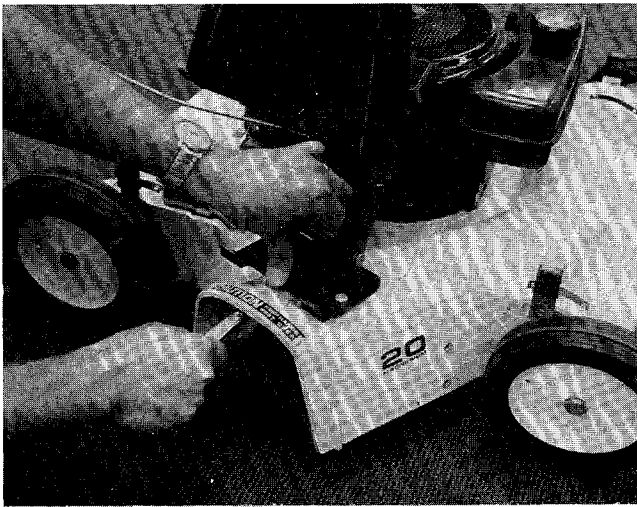

FIGURE 7.
6. Tighten two hex nuts securely, using a 7/16" wrench. See figure 7.